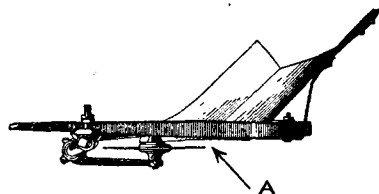
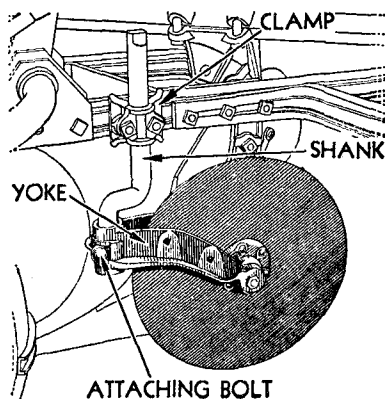

FIGURE 27—LATERAL ADJUSTMENT OF ROLLING COULTER
FIGURE 28—ROLLING COULTER
F. Rolling Coulters.—For all conditions the coultter must be set so that the blade will run from $1/2''$ to $5/8''$ to the left of the landside of the share (Figure 27). This adjustment is made by loosening the beam clamp bolts and turning shank in clamp (Figure 28).